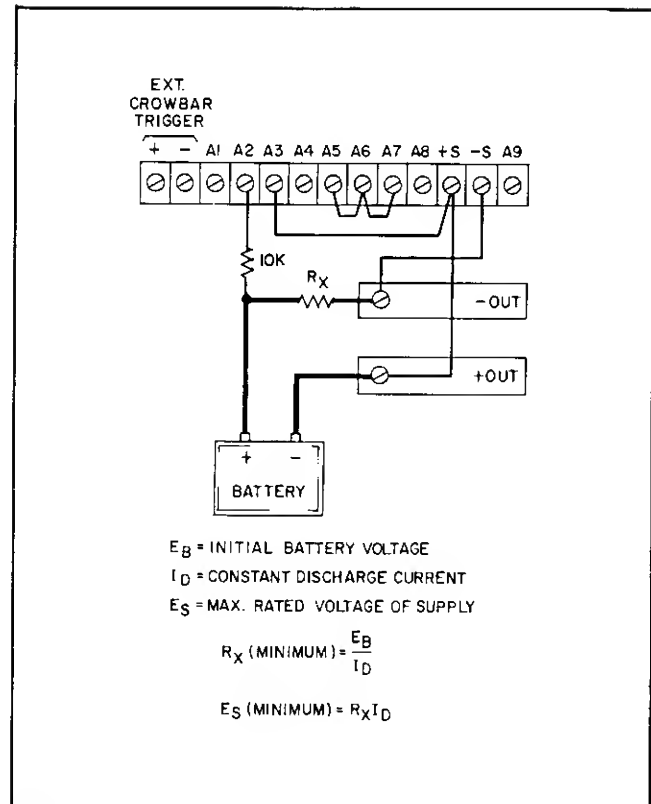

Figure 3-17. Battery Discharging
3-92 These power supplies are also useful when batteries must be discharged at a constant current in order to test them. Connecting a supply as shown in Figure 3-17 and following the instructions below makes an unattended constant-current discharge possible by automatically shutting off the output of the supply when the battery voltage reaches zero.
the supply senses this through the connection to its A2 terminal and reduces the output current to zero. (If this automatic shutoff feature is not required, the 10k ohm resistor may be omitted.) As shown in Figure 3-17, R_X must be selected so that its IR drop is less than the maximum rated output voltage of the supply, but greater than the initial battery voltage.
- b. Connect terminal A3 to +S and leaves all other jumpers connected as for normal operation as shown in Figure 3-17.